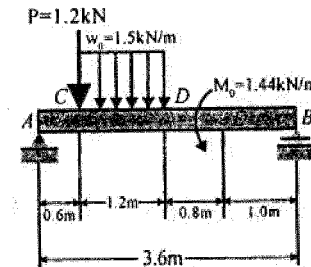

Fig. 3d
d) For the beam and loading shown (fig.3d) and using singularity functions (Macaulay's method), express the slope and deflection as functions of the distance x from the support at A and determine the deflection at the midpoint D. Use $E = 200 \text{ GPa}$ and $I = 6.87 \times 10^6 \text{ m}^4$.
The simply supported beam in fig.3d has a rectangular cross section 120 mm wide and 200 mm high. Compute the maximum bending stress in the beam and the bending stress at a point on section E that is 25 mm below the top of the beam.